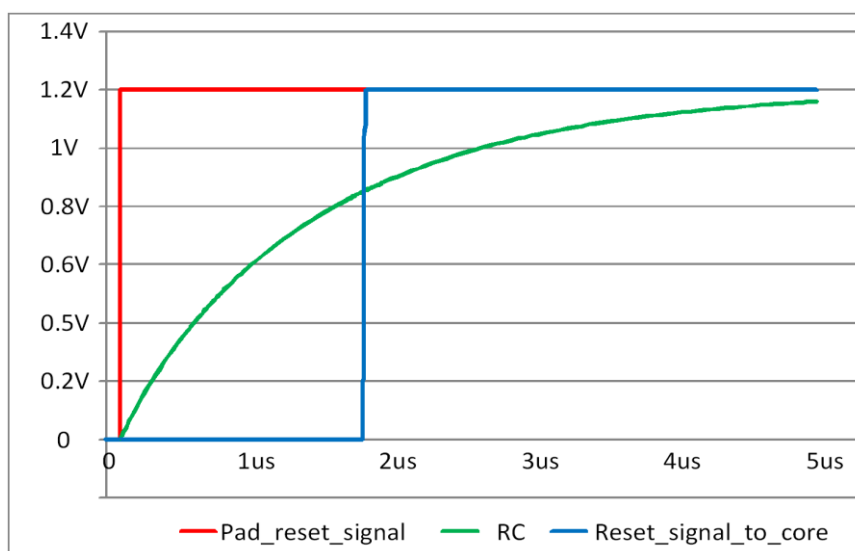

Figure 13: RST Pad Latency
The DA14585 comprises an RST pad which is active high. It contains an RC filter for spikes suppression with 400 k Ω and 2.8 pF for the resistor and the capacitor respectively. It also contains a 25 k Ω pull-down resistor. This pad should be connected to ground if not needed by the application. The response is illustrated in the Figure 13 which displays the voltage (V) on the vertical axis and the time (μ s) on the horizontal axis: